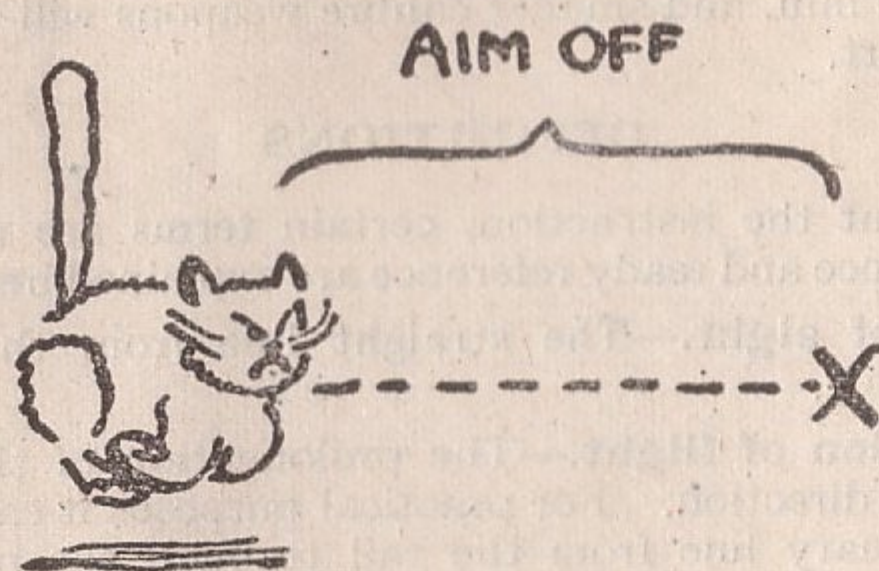

FIG. 1.
1. **General.**—There is nothing new or difficult in shooting at aircraft using the A.A. cartwheel sight. The principle is the same as, say, throwing a boot at a cat running along the top of a wall. In order to allow for the travel of the cat during the time of flight of the missile it is necessary to aim at a point ahead of the target along its future direction. This is called "aim-off" (Fig. 1).